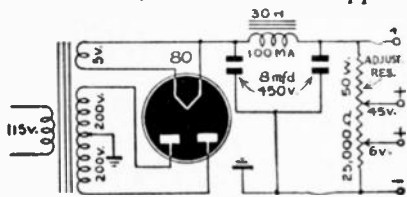

Fig. 505
A. Fig. 505 shows the diagram. Since the amount of current required is not stated, the bleeder is supplied with sliders. A high-resistance voltmeter is necessary for proper adjustment. Start with sliders at B—